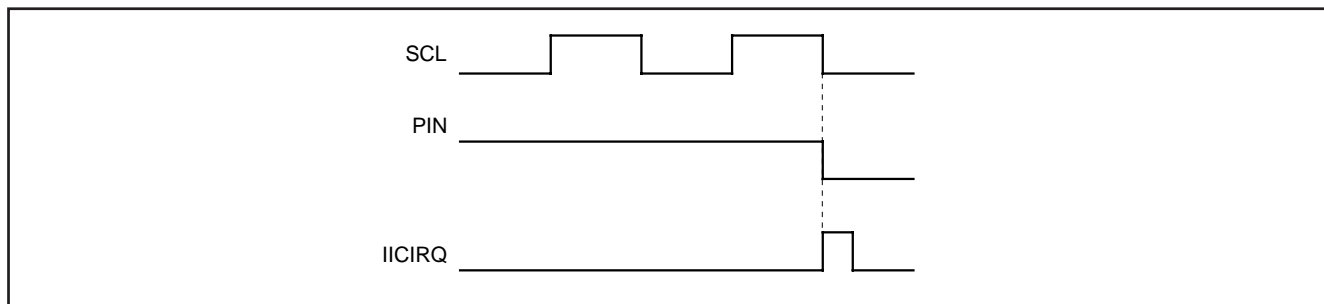

Fig. 8.6.8 Interrupt Request Signal Generation Timing
(5) Bit 4: I²C-BUS interface interrupt request bit (PIN)
This bit generates an interrupt request signal. Each time 1-byte data is transmitted, the state of the PIN bit changes from "1" to "0." At the same time, an interrupt request signal is sent to the CPU. The PIN bit is set to "0" in synchronization with a falling edge of the last clock (including the ACK clock) of an internal clock and an interrupt request signal occurs in synchronization with a falling edge of the PIN bit. When detecting the STOP condition in slave, the multi-master I²C-BUS interface interrupt request bit (IR) is set to "1" (interrupt request) regardless of falling of PIN bit. When the PIN bit is "0," the SCL is kept in the "0" state and clock generation is disabled. Figure 8.6.8 shows an interrupt request signal generating timing chart.